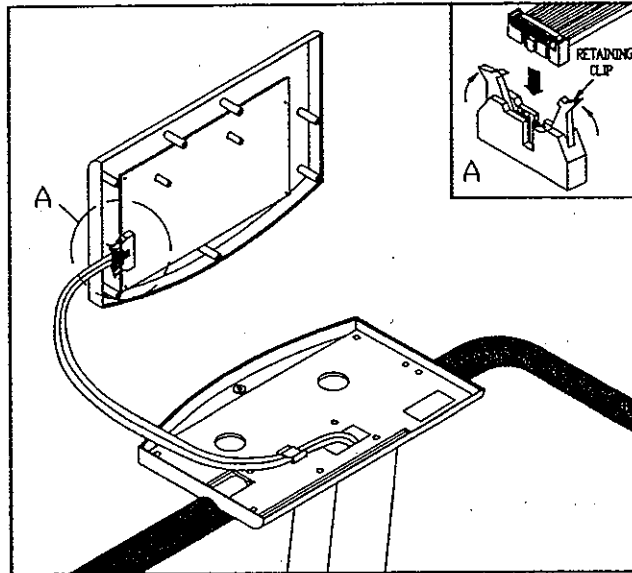

Fig. 3
1. Install a new electronics package, plug the 16 pin cable connector into its socket and snap the retaining clips to secure (see Fig. 3).